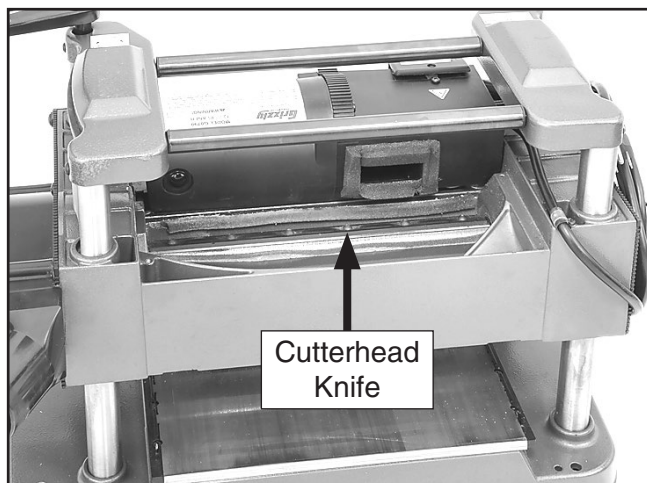

Figure 28. Location of cutterhead knives and cap screws.
3. Wearing heavy leather gloves, carefully turn cutterhead until knives are visible (see **Figure 28**).